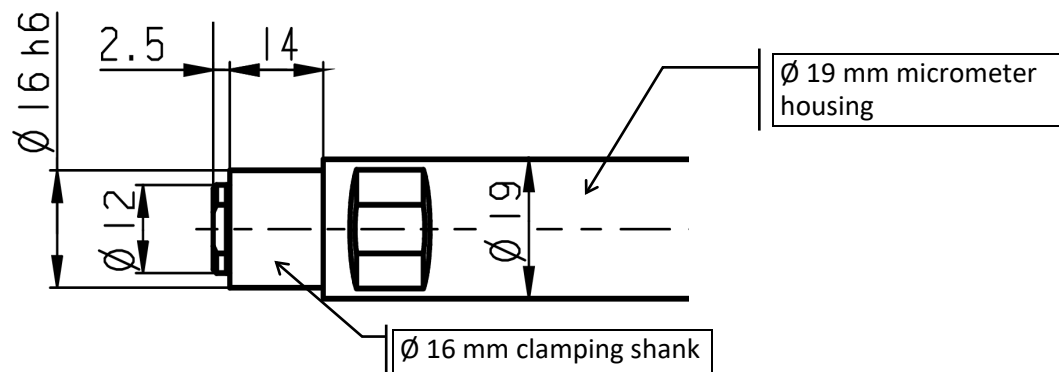

Figure 3: Clamping surfaces of the M-227
- Clamp the M-227 on the clamping surfaces intended for this purpose (refer to Figure 3 above). Ensure that the clamping is neither too tight nor too loose.